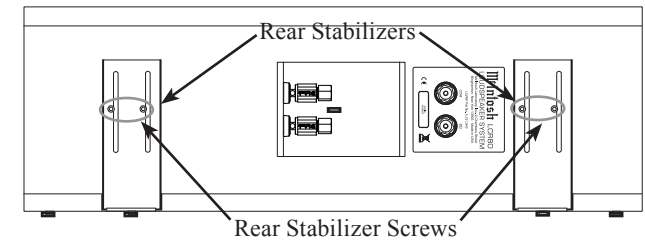

Figure 2
12. To change the position, loosen but do not remove the two screws securing the position of the Rear Stabilizers to the back of the LCR80. Refer to figure 2.